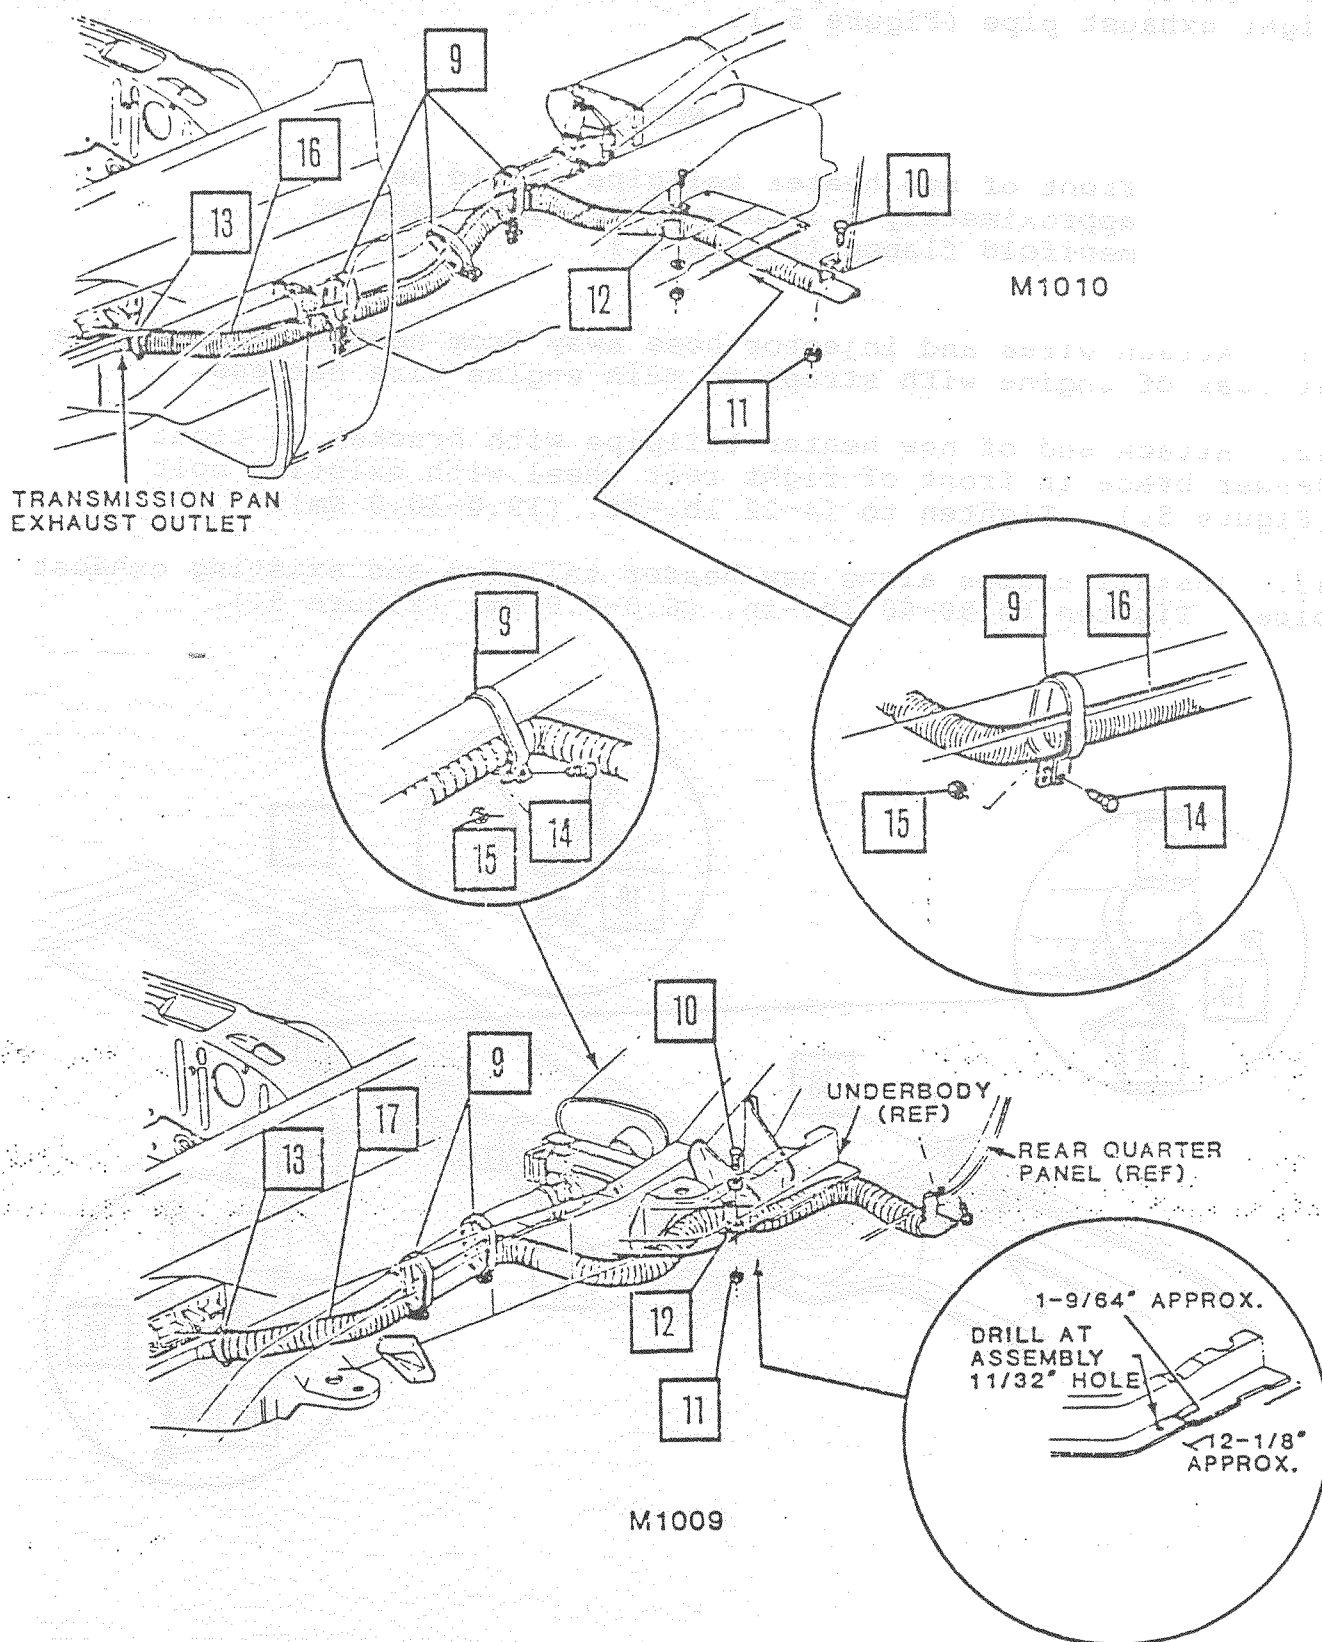

Figure 4.
39. Secure end of heater tailpipe to pencil brace in front of left rear wheel. Tighten to 14-22 lb.-in. (19.0-30.0 Nm). Drill 11/32 inch hole in frame and secure with clamp, nut and bolt (Figure 4.). Tighten to 8-11 lb.-ft. (11.0-15.0 Nm).